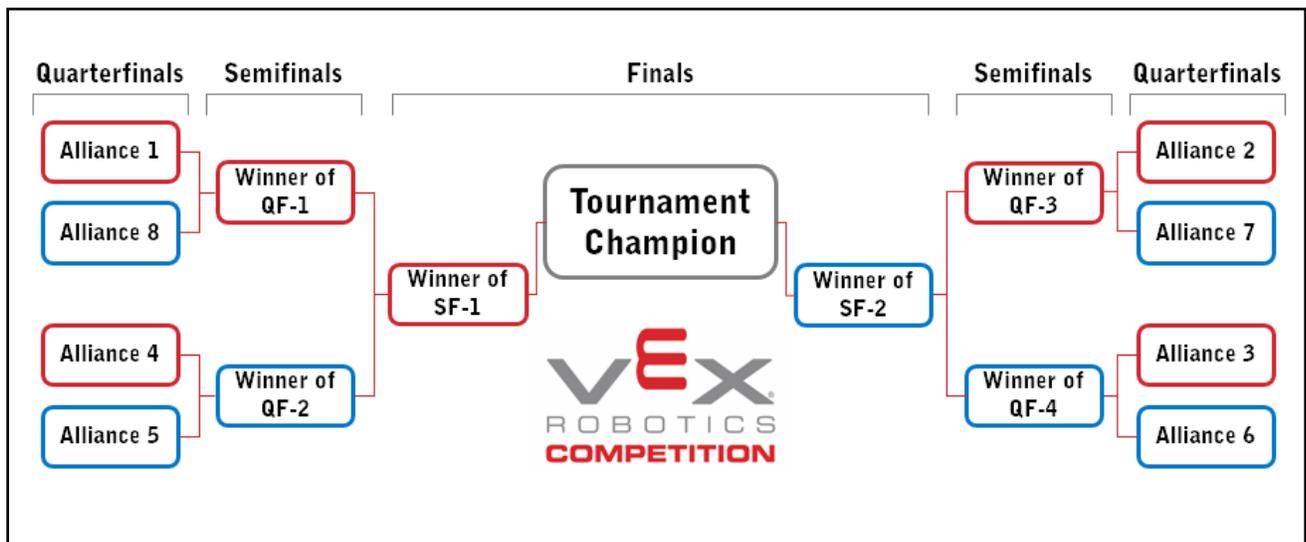

Figure 28: An 8-alliance bracket
Thus, an eight (8) *Alliance* bracket would run as shown in Figure 28, bypassing the Round of 16:
<T19> Small tournaments may have fewer Alliances. Events (or divisions within an event) with 32 or more *Teams* must use 16 two-*Team Alliances* for *Elimination Matches* as shown in Figure 28. Events with fewer than 32 *Teams* (i.e., the requisite amount for 16 full *Alliances*) must limit the number of *Alliances* by dividing the number of *Teams* by two, less any remainder.